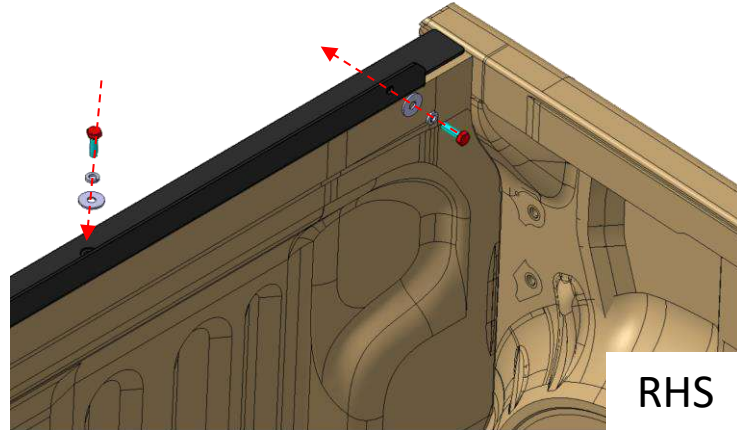

Figure 9
- Place the long front bracket over the two M6 Riv-nuts and tighten down with the M6x20mm Hex bolts, spring washers and washers from fastener set **FS00533** as shown in **Figure 9** .